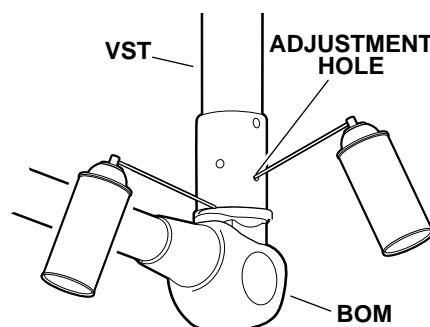

Figure 2-11 . BOM Lubrication
- If the lighthead sticks or is difficult to move, before making any adjustments, lubricate the BOM needle bearings with a Teflon type spray lubricant such as TRI-FLOW (available from Richardson-Vicks, Inc., Memphis, TN) or equivalent. See figure 2-11. After spraying, rotate the lighthead several times in both directions and recheck for proper tension.